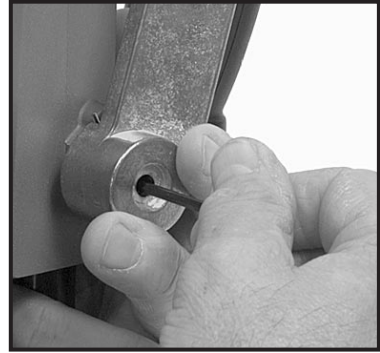

Fig. 10
2. Insert a 1/8" hex wrench (not furnished) into the adjusting screw (see Fig. 10) and turn counter-clockwise approximately 1/2 turn.